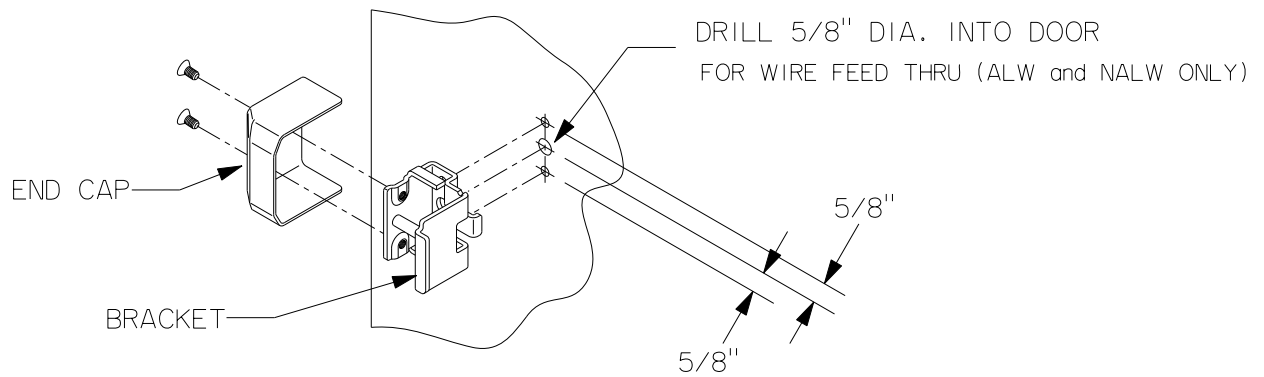

FIGURE 1
① DEVICE PREPERATION
3. For Remote Power, Remote Activation or Remote Arm/Disarm, drill 5/8" diameter as shown in FIGURE 1.
5. For ALK and NALK, install Bracket and End Cap as shown in FIGURE 1.
3. Install Bracket and End Cap as shown in FIGURE 1.
2. Install Bracket and End Cap as shown in FIGURE 1.